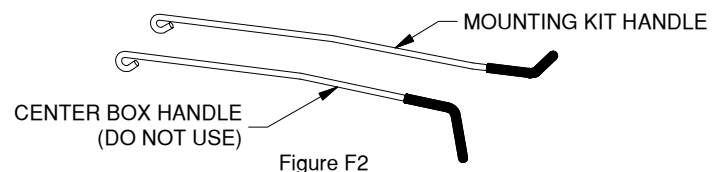

Figure F2
2. **Locate the correct handle.** This hitch kit comes with a handle in the mounting kit box and in the center box, see Figure F2. The handle which comes in the mounting kit box will be used. The shorter handle, in the center section box, will not be used in this installation. When properly installed, the handles vinyl cover will be horizontal instead of vertical.